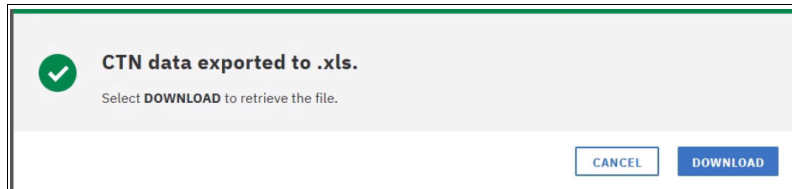

Figure 3-48 Export CTN data
1. Click the **Export CTN data (.xls)** menu in the **Manage System Time** task. The message is shown in Figure 3-48.